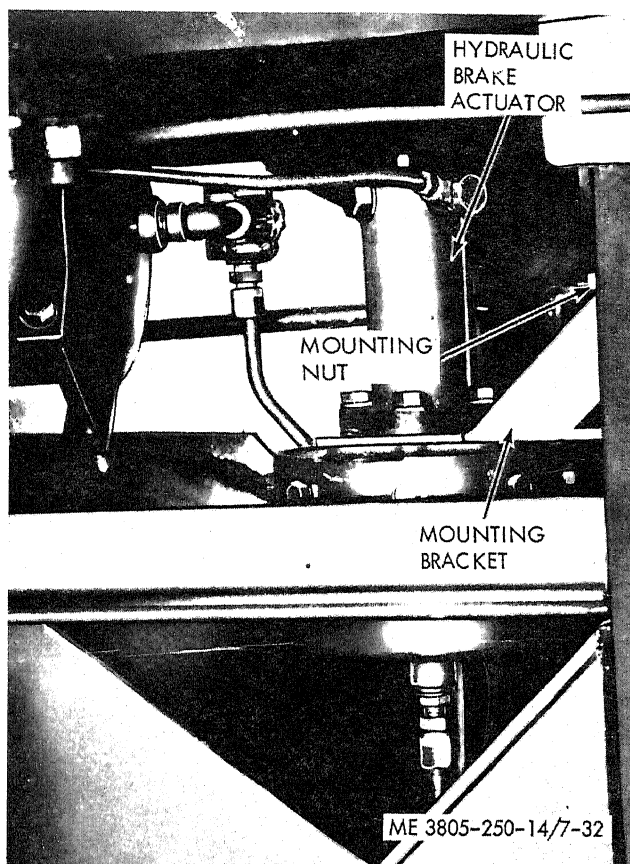

Figure 7-32. Hydraulic brake actuator, removal and installation.
a. Removal. Refer to figure 7-32.
(1) Block the wheels and engage the parking brake.
(2) Open the drain cock on the main air reservoir and depressurize the system.
(3) Clean the area around the actuator to remove dirt and grease.
(4) Disconnect lines to actuator. Cap or plug lines and fittings as soon as they are disconnected.